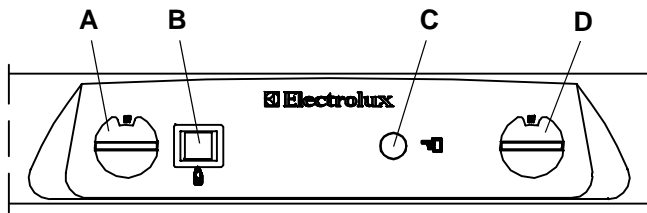

FIG. 1
The refrigerator can be run on 230-240 V, 12 V or LP gas. Changing between these modes of operation is carried out by means of the control buttons positioned as shown in fig. 1.
All references are to fig. 1.
The position number refers to fig.1.
1. Set the switch (A), fig. 1, to "OFF".